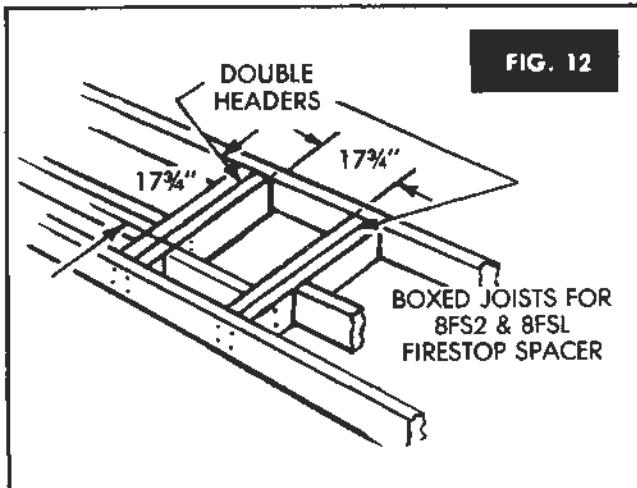

FIG. 12
3. Cut out opening. Double headers should be placed between joists for extra support and nailed in place. (See Fig. 12). **NOTE:** If 8FS230 30° firestop spacer is used, the long side of opening must be 24-7/8".